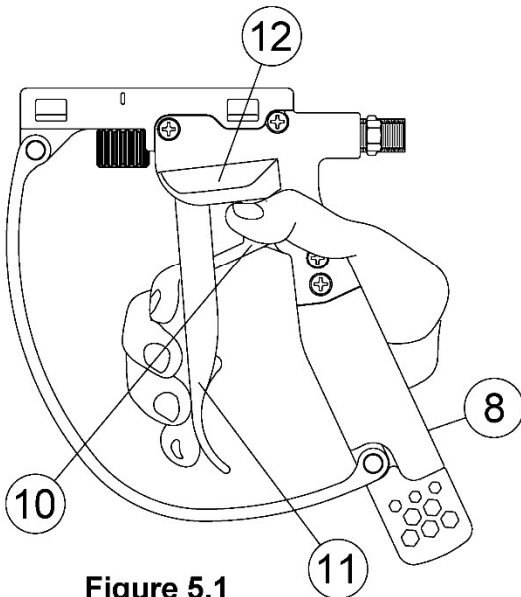
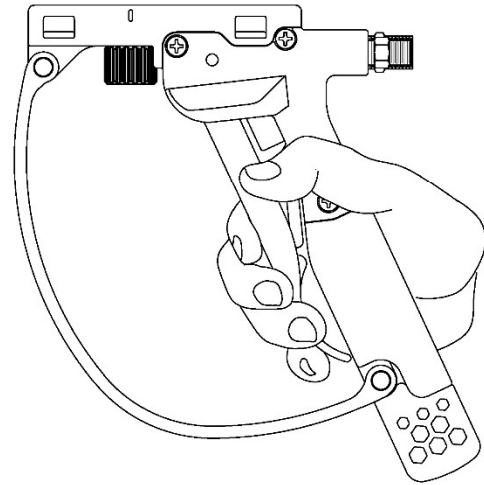

Figure 5.1
Figure 5.2
- 4.1.8 To test the G3 Trigger Deadman (#8) **2 Position Module**, press down the safety flap (#10) and pull the trigger (#11) to activate the deadman valve and start the blast operation. See Figures 5.1 and 5.2. Release the trigger to stop blasting.
- 4.2.6 To test the G3 Trigger Deadman (#8) **2 Position Module** (See Figure 8.3), press down the safety flap (#10) and pull the trigger (#11) to activate the deadman switch and start the blast operation. See Figures 5.1 and 5.2. Release the trigger (#11) to stop blasting.
- 5.4 Place the thumb on top of safety flap (#10) and just under the curved safety flap guard (#12) on the trigger deadman handle. Thumb must be placed in the proper location to easily move the safety flap (#10) down to allow the trigger (#11) to move to the blast position. (See Figure 5.1) Only place thumb in ready position when ready to blast. Refer to video link below.
- 5.6.1 The G3 Trigger Deadman (#8) is 2 position (Blast OFF/ON: see Figures 8.1 – 8.3). The hand position will move from Figure 5.1 to Figure 5.2.
- 6.2.1 While electric supply to the G3 Trigger Deadman (#8) is disconnected, push the safety flap (#10) down and squeeze the trigger (#11) until it is fully engaged (See Figures 5.1 - 5.2). Release the trigger. The trigger and safety flap should return to off position. Squeeze the trigger again, without moving the safety flap, to confirm the safety flap does not allow the trigger to move. If the trigger and safety flap do not return to the off position, clean the trigger and safety flap pivot points. Repeat until the trigger and safety flap function properly. (See Figure 8.3)
- 6.3.1 While air supply to the G3 Trigger Deadman (#8) is disconnected, push the safety flap (#10) down and squeeze the trigger (#11) until it is fully engaged (See Figures 5.1 - 5.2). Release the trigger. The trigger and safety flap should return to off position. Squeeze the trigger again, without moving the safety flap, to confirm the safety flap does not allow the trigger to move. If the trigger and safety flap do not return to the off position, clean the trigger and safety flap pivot points. Repeat until the trigger and safety flap function properly. (See Figure 8.2)